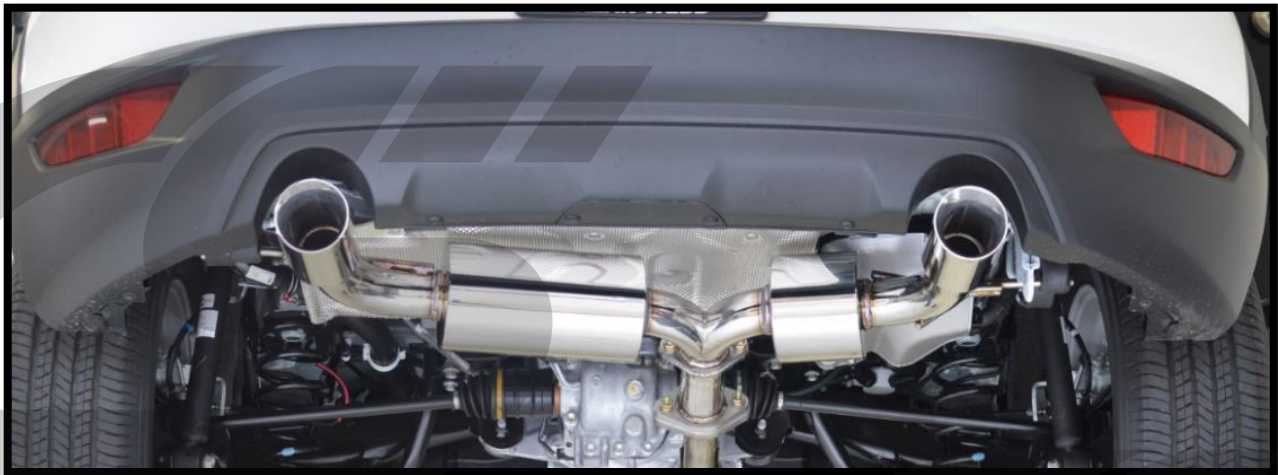

Figure 3d
- c) **Align the exhaust tips and hangers so the exhaust is straight and centered.** Figure 3d shows how the exhaust tips should look when properly aligned.